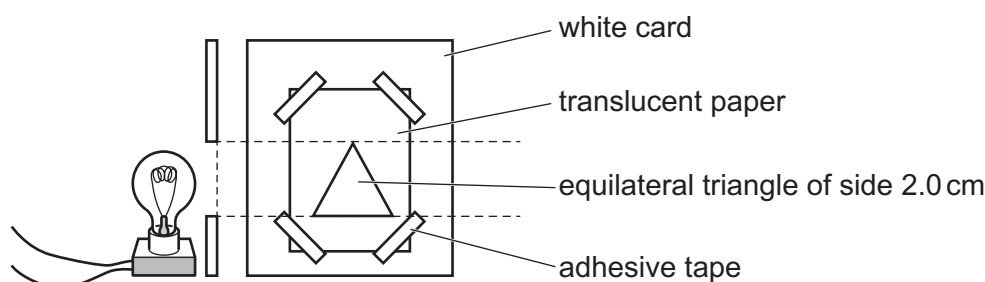

Fig. 3.1
- 1 The object is made by cutting a hole in the shape of an equilateral triangle of side 2.0 cm in the card (see Fig. 3.1). The triangular hole must be covered with translucent paper (e.g. tracing paper). The orientation of the triangle must be as shown in Fig. 3.1.